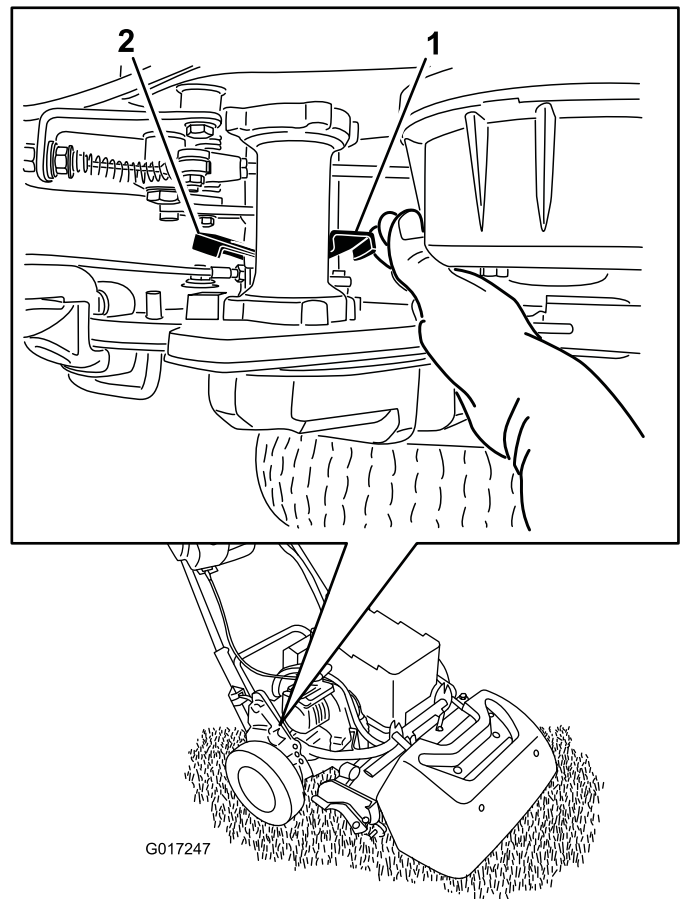

Figure 32
1. On the right rear corner of the machine, locate the traction engage/disengage lever next to the drive housing drum (Figure 32).